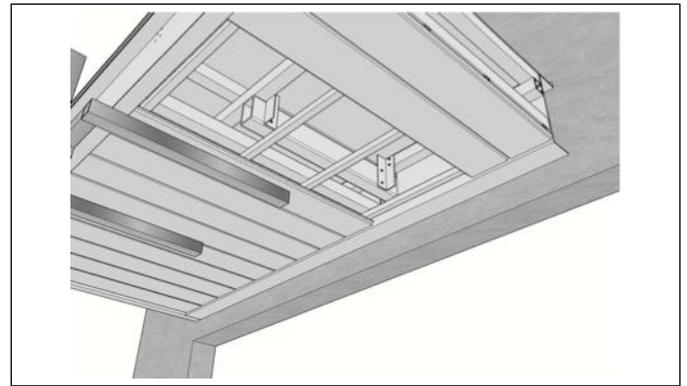

Fig 9
6. Make sure the canopy is tight against the wall (Fig 9). Confirm that canopy is positioned correctly on the wall, adjust if needed.